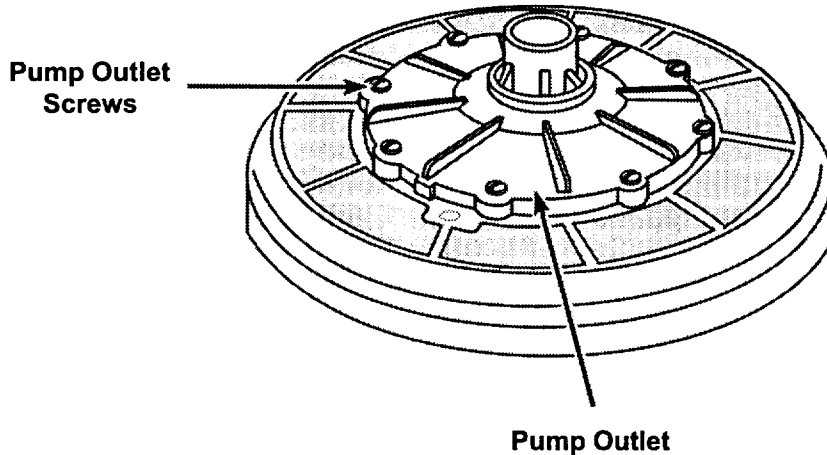

Fig. 4
1. Remove the eight (8) Torx screws that secure the pump outlet to the separator. (Fig. 4)